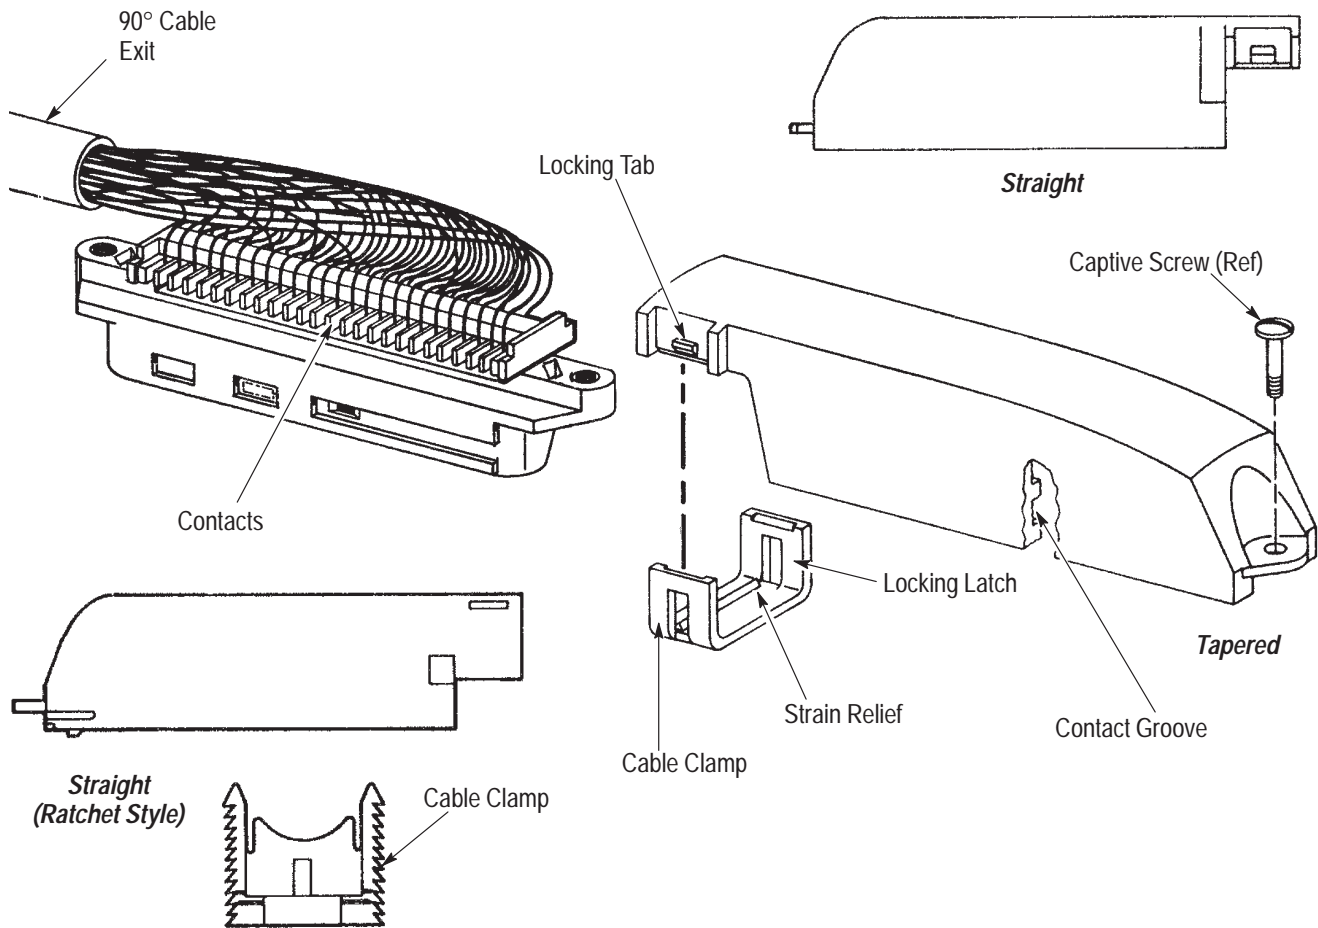

Figure 4
1. Grip the connector firmly with one hand, then draw the other hand over the wire and towards the proper end of the connector – forming the wires as indicated in Figure 4. Do NOT overwork the wires.